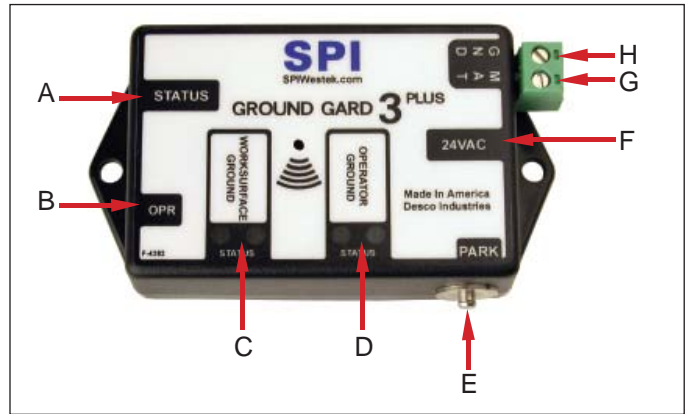

Figure 2. Ground Gard 3 Plus features and components
Features and Components (See Figure 2)
1. Plug a wrist strap cord, not attached to the wristband, into the monitored banana jack labeled OPR on the side of the unit (See Figure 2). This automatically activates the selected operator channel. The red operator LED should illuminate. The monitor takes 6 seconds to activate its alarm circuitry when it is first plugged in.